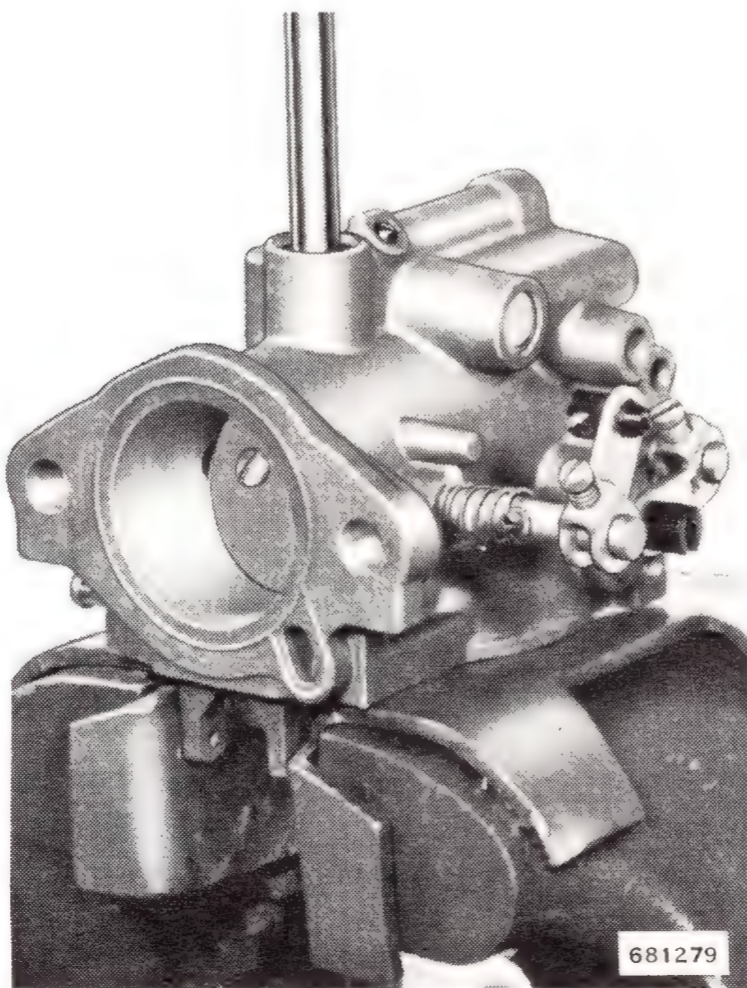

Figure 3-15. Re-Seating or Installing Core Plug
a. If leakage is slight, a smart tap with a hammer and flat end punch in the center of the core plug will normally correct this condition. See Figure 3-15.